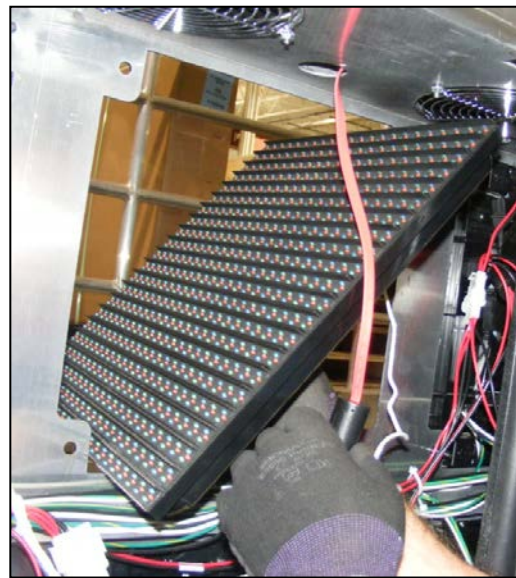

Figure 12: Pulling Module through Display Face
7. Rotate the module in a way that allows you to guide the module through the frame opening without catching the louvers or LEDs on the cabinet. Refer to **Figure 12**.